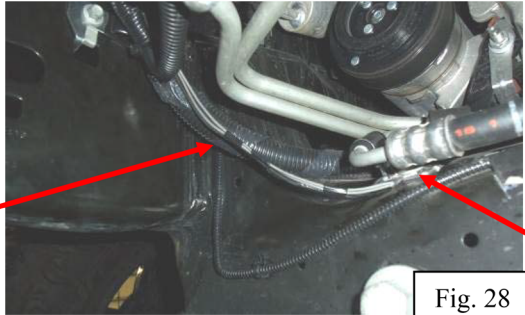

Fig. 28
27. Remove the 8mm bolt holding the power steering lines to the cross member (Fig. 28). Attach the gray and black ground wires from the relays using the 8mm bolt. Tighten the bolt. Zip tie the wires to the factory wire harness that is along the frame rail.